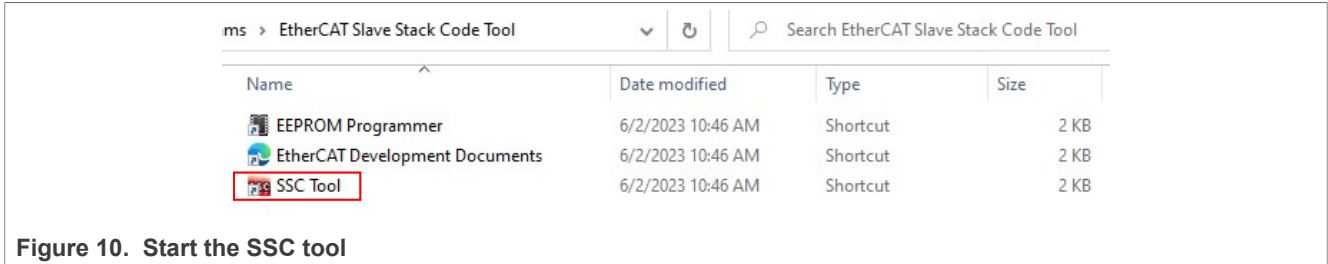

Figure 10. Start the SSC tool
2. Start the SSC tool as shown in Figure 10.